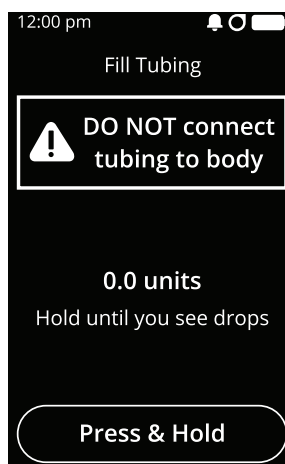

Figure 65
- Tap and hold the **Press & Hold** button to begin filling your tubing with insulin (see Figure 65). You will see drops appear from the needle of the insulin infusion set.